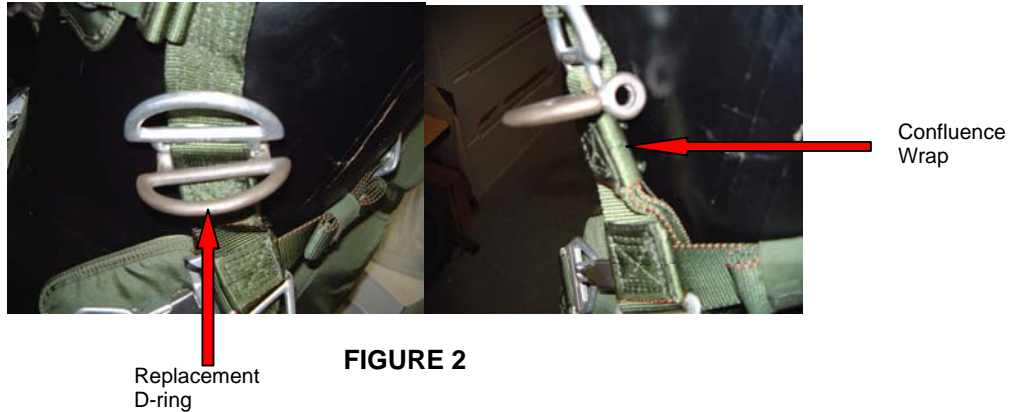

FIGURE 2
- (4) On the right or left side, locate the area immediately below the existing D-ring and position the replacement D-ring with the threaded portion to the inside, immediately below the existing D-ring but above the confluence wrap. Push the D-ring on to the main lift web until completely seated. It may be necessary to work the D-ring back and forth and up and down in the event of a tight fit (Figure 2).